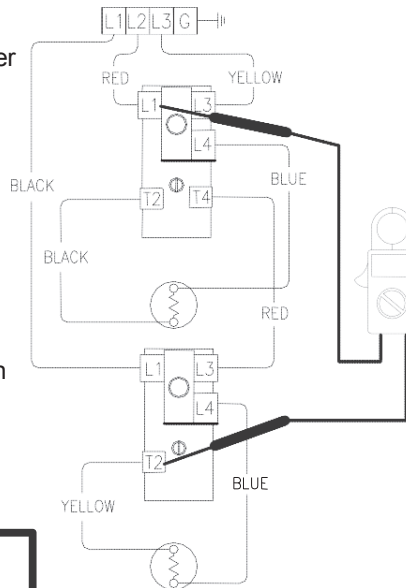

Figure 44
7. Check voltage across terminal L1 of upper thermostat & T2 of lower thermostat (see Figure 44).
4. See Figure 44 above. Check across terminal L1 of upper thermostat & T2 of lower thermostat.